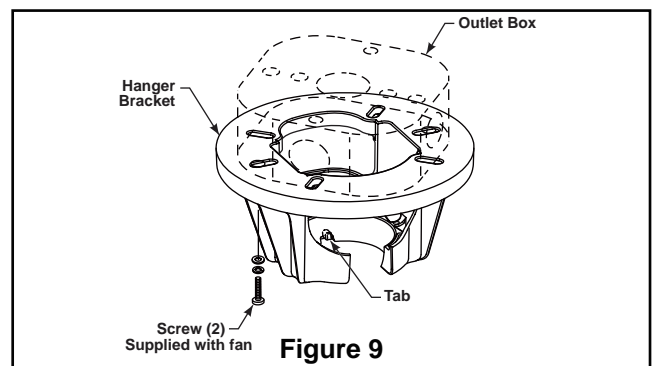

Figure 9
1. Securely attach the hanger bracket to the outlet box using the outlet box screws and washers supplied with the fan. (Figure 9)